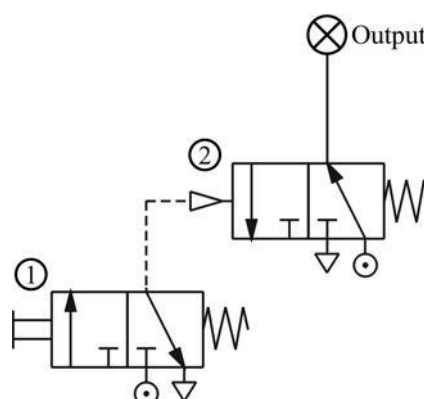

Fig. 24 Signal inversion system
The pneumatic diagram in Fig. 24 shows how directional control valves can be switched. When operating control valve ①, control valve ② will stop producing pressure output. When control valve ① ceases operation and is restored to its original position, control valve ② will resume its output. Therefore, at any given time, the pressure output of control valve ① is the exact opposite of that of control valve ②.